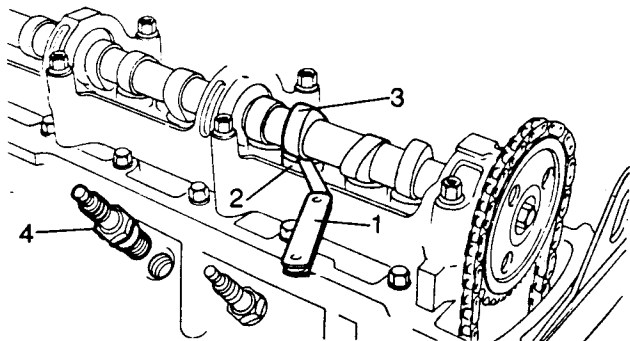

Fig B3.1
- (1) Remove the cam cover (see Sub-section B4, Chapter 11).
- (2) Remove the spark plugs ((4) on Fig B3.1).
- (1) Refer to Fig B3.1. To check the clearance use a feeler gauge (1) between the cam lobe (2) and cam follower (3) of each valve and record the clearance measured.